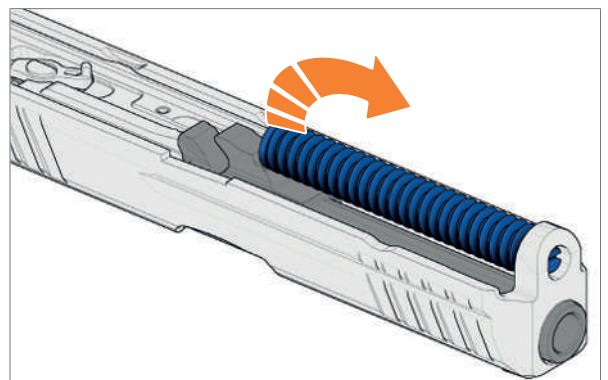

Fig. 62: Removing the recoil spring
6. Remove recoil spring from slide (*Fig. 62*).